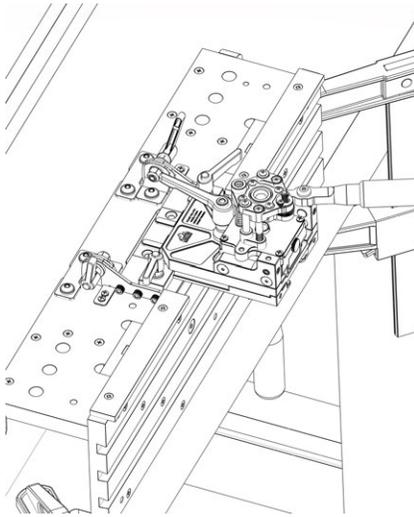

FIG. 9
1. Loosen both adjustable handles (Part # 4) on either side of the universal plate (Part # 12) that were just installed and slide the Pocket Mill Pro onto the universal plate. See Figure 9. The two grooves on the universal plate should slide into the slots of the PMP.